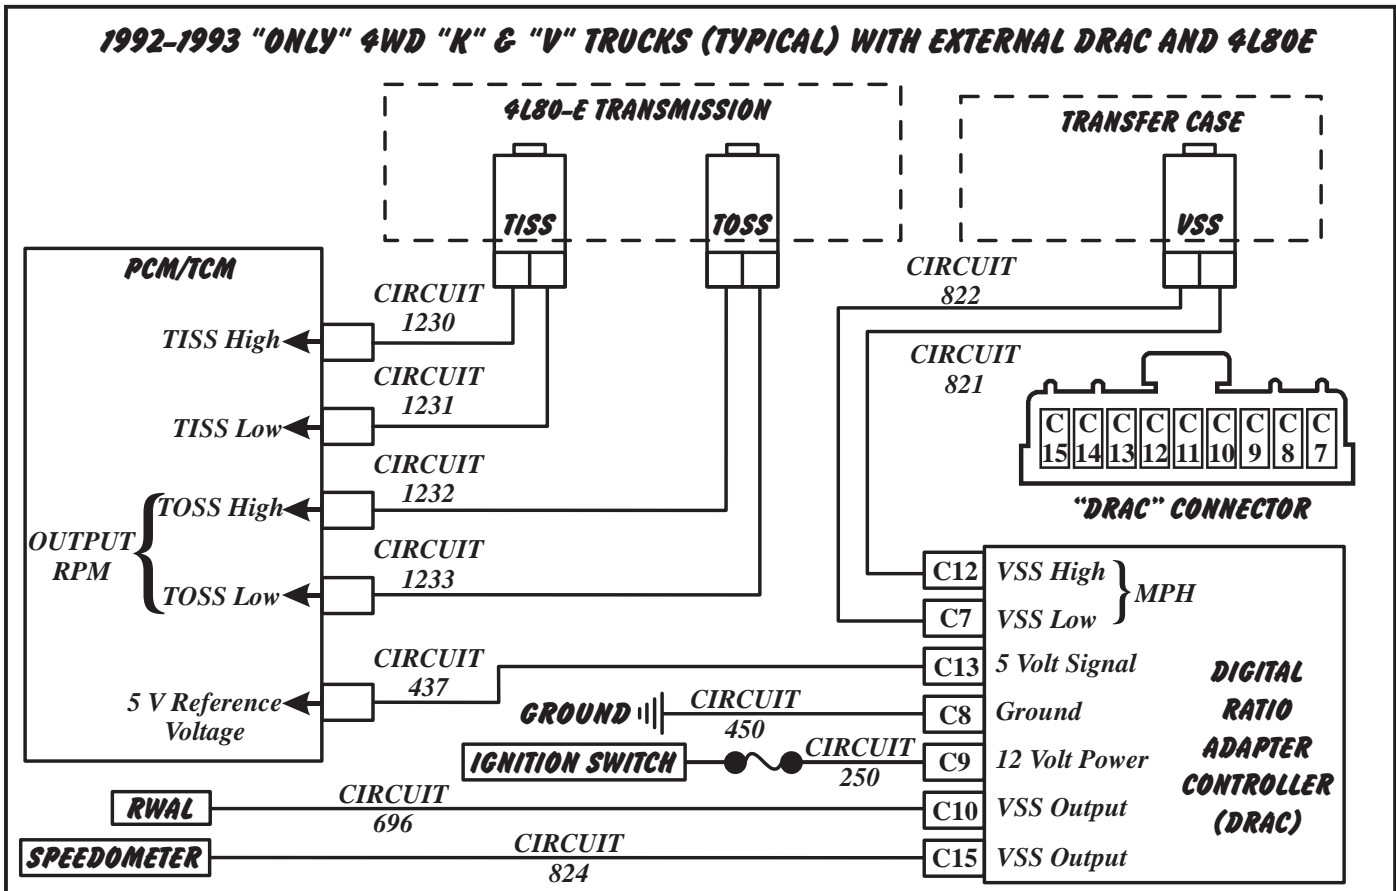
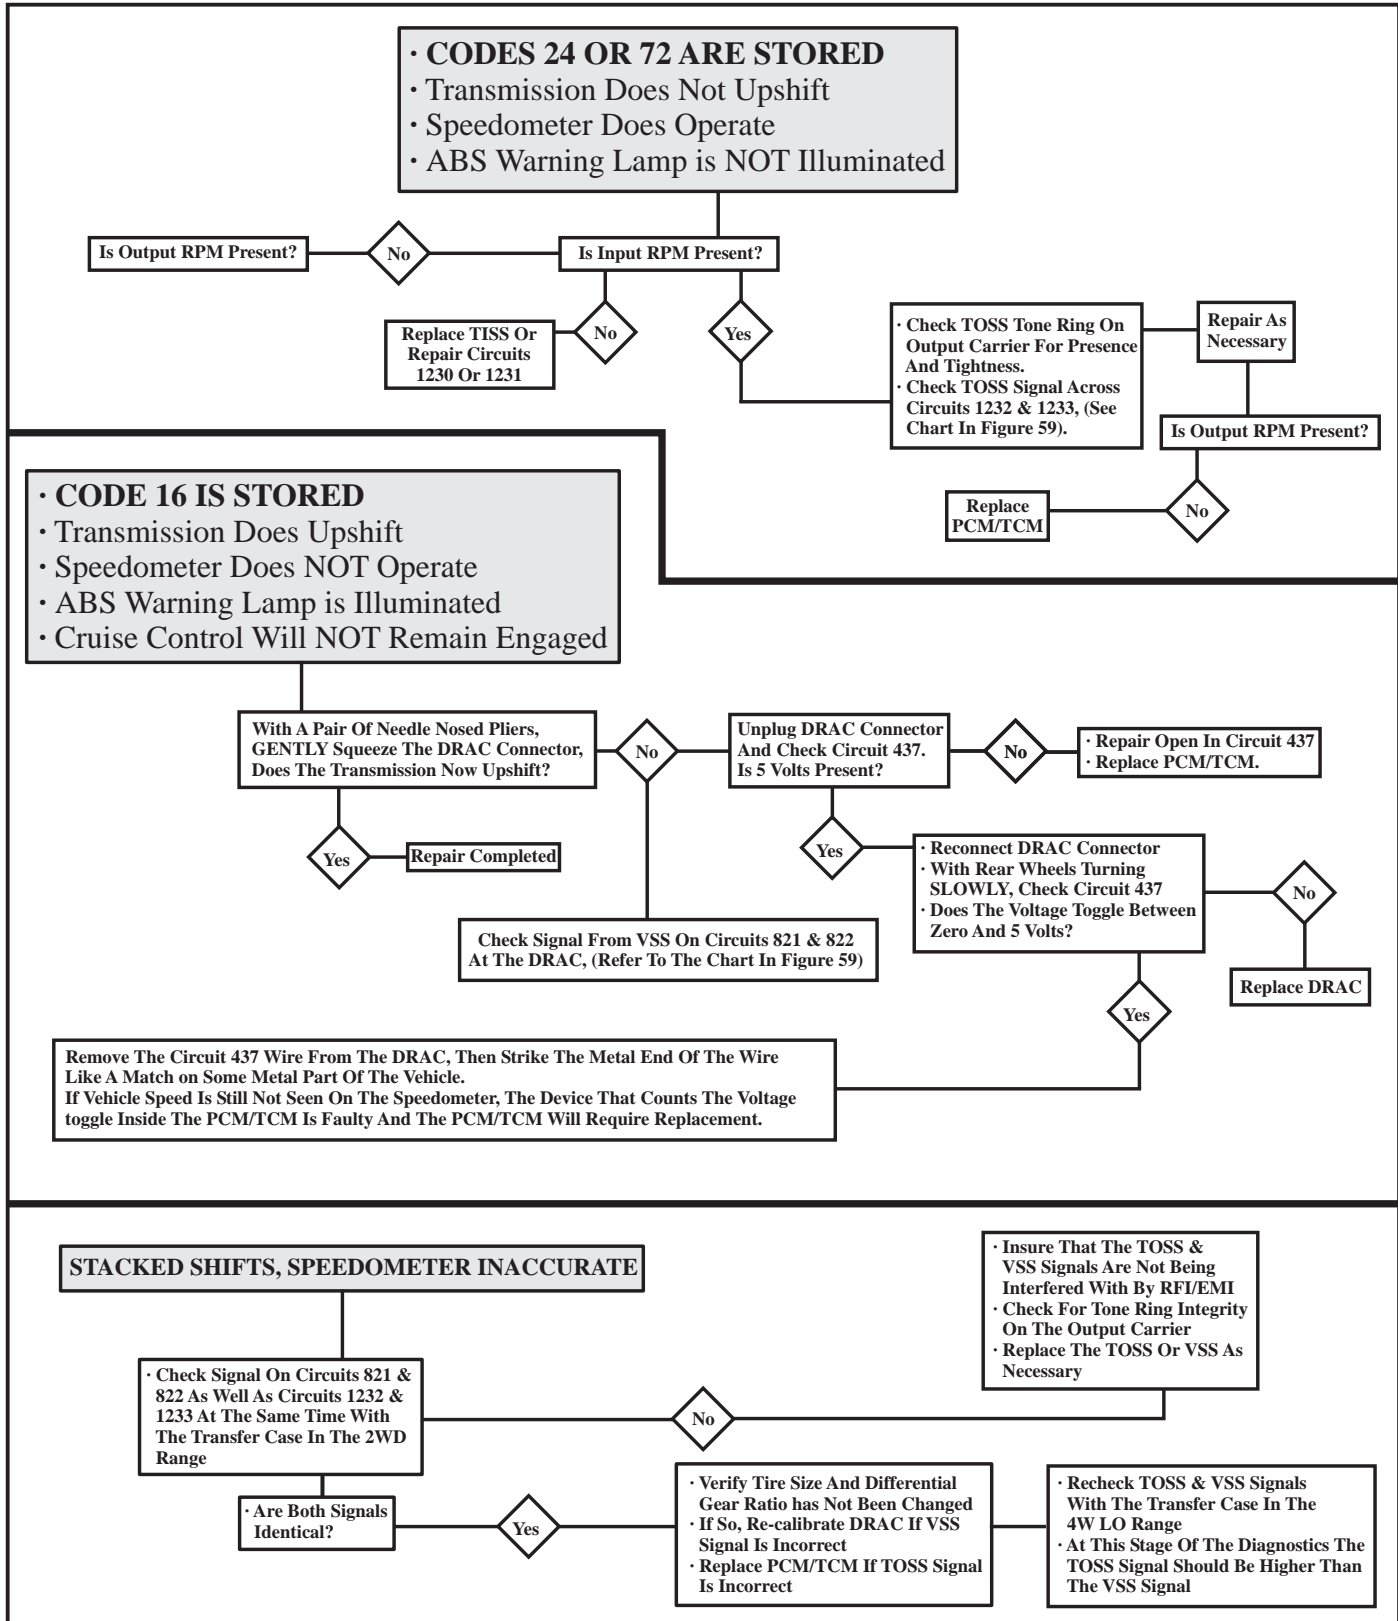
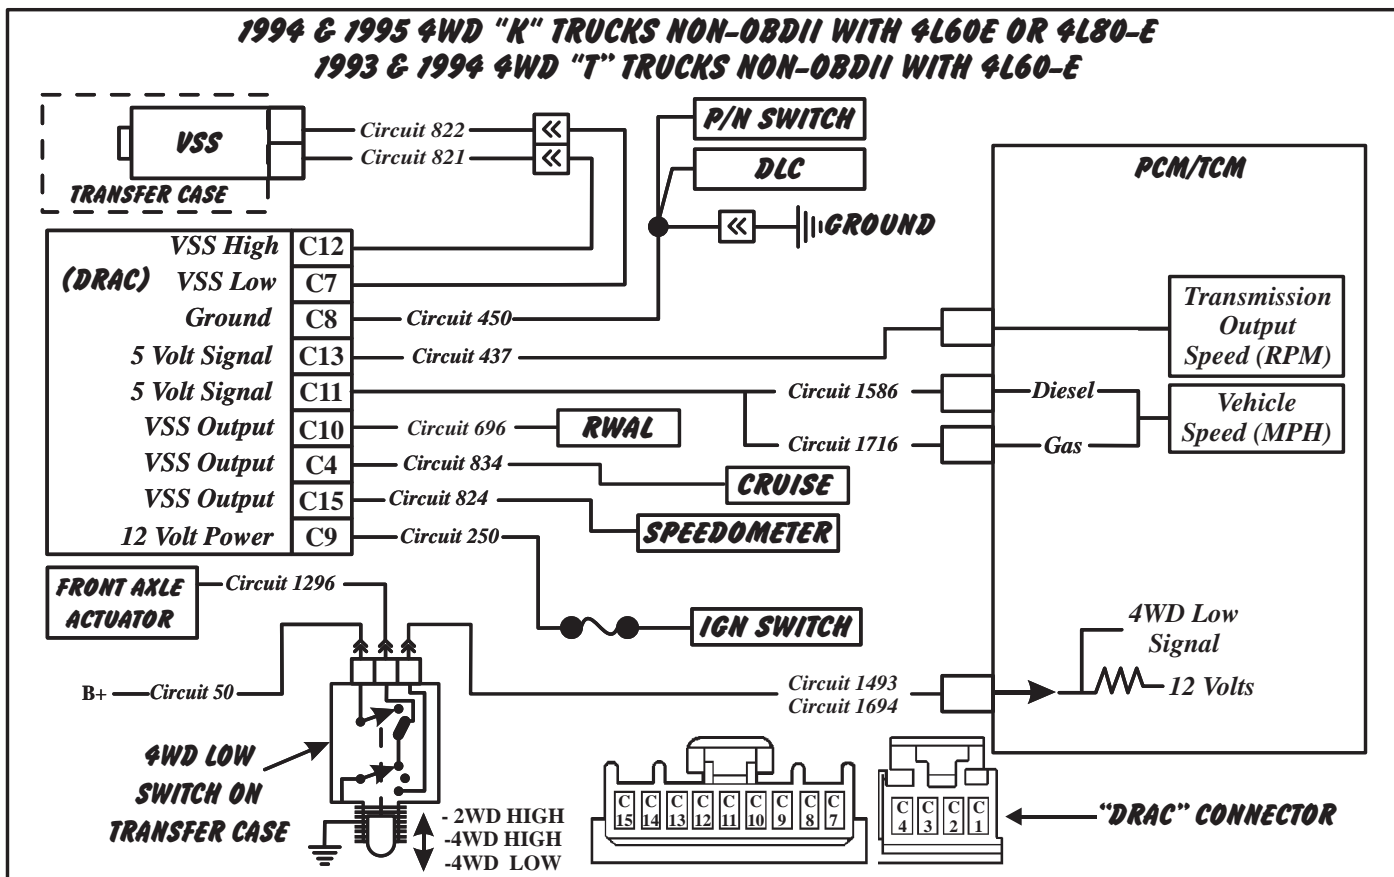

Figure 58
Figure 60
Figure 62
- A short or open in circuit 437, (Refer to Figure 58).
- A faulty ignition switch or blown fuse causing a loss of power to the DRAC, on Circuit 250, (Refer to Figure 58).
- A poor DRAC ground Circuit 450, (Refer to Figure 58).
- A fault in the Vehicle Speed Sensor (Transfer Case), its wiring (Circuits 821 or 822 ) or connector, (Refer to Figure 58 and the Sensor Value Chart in Figure 59).
- A faulty Output Shaft Speed Sensor (Rear of Transmission Case), or Circuits 1232 or 1233, (Refer to Figure 58 and the Sensor Value Chart in Figure 59).
- The schematic in Figure 58 covers 1992 to 1993 vehicles, but the 1991 "K" truck that has the "DRAC" located inside the speedometer cluster is diagnosed in the same way as the external "DRAC", the circuit numbers are the same as well. The diagnostic tree is seen in Figure 60.
- A short or open in circuit 437, (Refer to Figure 62).
- The PCM is not sending 5 volts on circuit 437, (Refer to Figure 62), or does not read the voltage toggle between 0 and 5 volts, (Refer to Figure 53 for computer locations).
- A faulty ignition switch or blown fuse causing a loss of power to the DRAC, on Circuit 250, (Refer to Figure 62).
- A poor DRAC ground Circuit 450, (Refer to Figure 62).
- A fault in the Vehicle Speed Sensor (Transfer Case), its wiring (Circuits 821 or 822 ) or connector, (Refer to Figure 62 and the Sensor Value Chart in Figure 59).
The "DRAC" diagnostics in Figure 62 and the diagnostic trouble tree in Figure 60 can be used for the vehicles listed below.
- The VSS system seen in Figure 62 is also used in the NON-OBDI-II Hummer H1. Although Hummer uses their own circuit numbers, the system operates and is diagnosed exactly the same as a 1994-95 GM "K" truck, including the Four Wheel Drive LOW Switch you see in Figure 62.